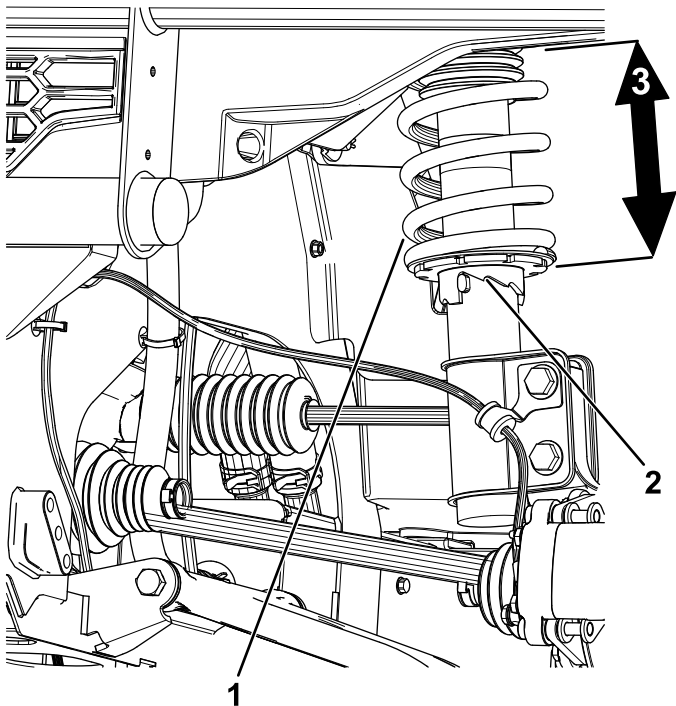

Figure 121
2. If the ground clearance is not correct, use the spring-adjuster wrench to rotate the collar on the shock absorber to align the wheel (Figure 121).